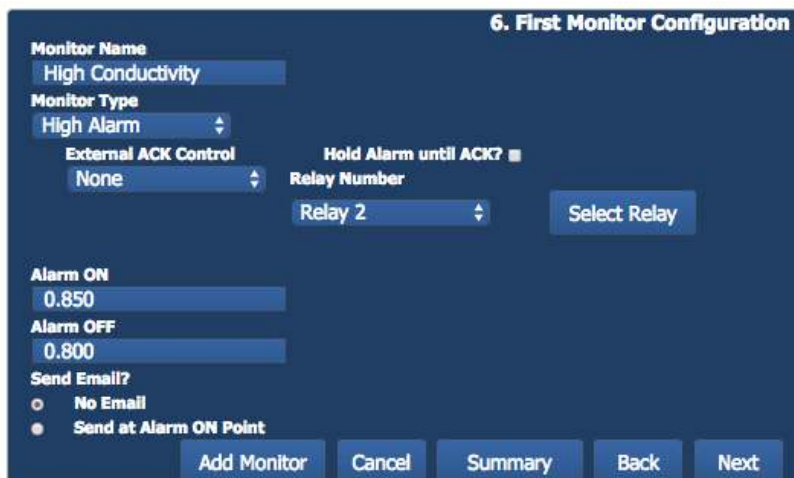

Figure 6-9 - Action Configuration Wizard
The word “action” is used to describe an alarm or a relay. The multiple ways in which alarms and relays can be combined adds power and flexibility to the 2300. Figure 6-9 shows the **First Action Configuration** window.
The first field is simply a name of the action that you create. In the example shown in Figure 6-9, the action for the conductivity sensor is named “High Conductivity” for obvious reasons.
1. Figure 6-9 shows the button, **Relay Number**, which accesses a pull-down menu of relays. You can click on any relay to select it.